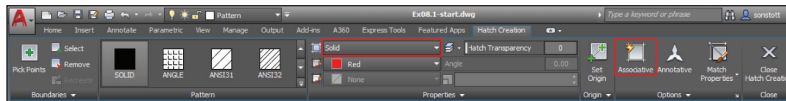

FIGURE 8.3 Using ribbon controls when creating a hatch
3. A temporary tab called Hatch Creation appears on the ribbon. This tab will remain active while you configure the hatch object you are creating. Click Solid in the Pattern panel, and turn off Associative mode if it is on by clicking its button in the Options panel (see Figure 8.3). (You'll learn about associative hatches in the next section.)